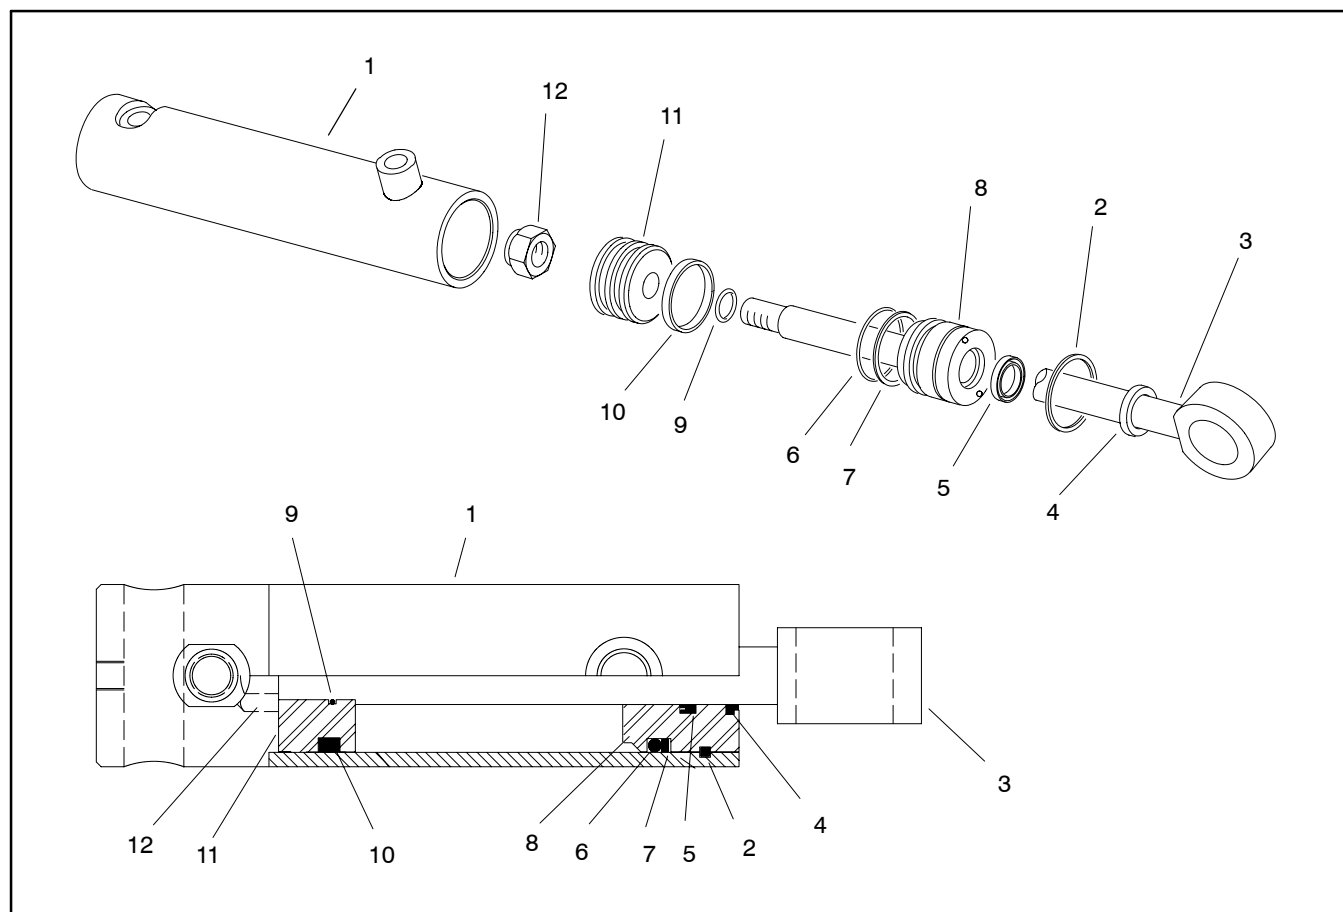

Figure 79
**Disassembly (Fig. 79)**
**Assembly (Fig. 79)**